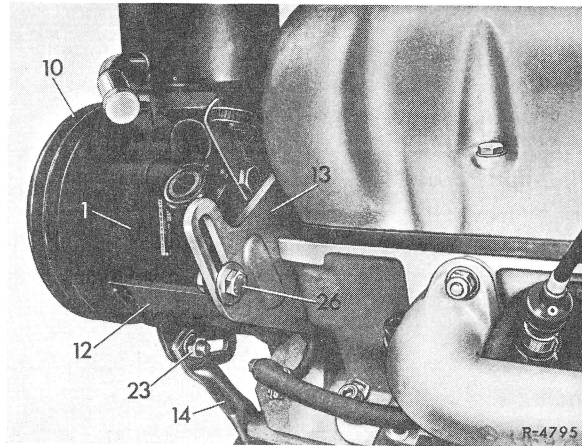

Fig. 5
11 Attach high-pressure oil pump including carrier (12) to fastening plate (13) and support. But do not yet tighten hex bolts or nuts (Fig. 5).
12 Place both V-belts on pulley (10), **tension** V-belts and tighten hex bolts or nuts (Fig. 5).